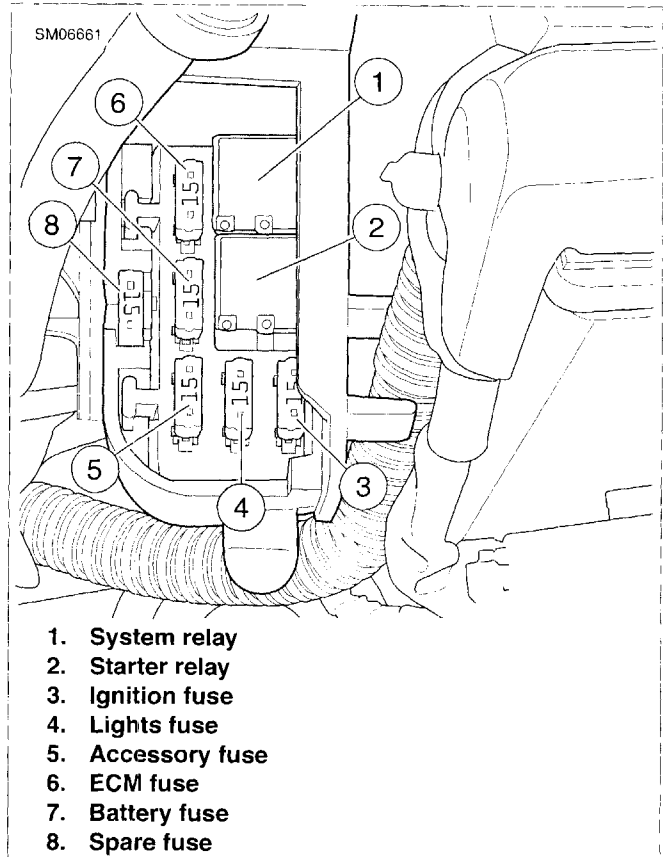

Figure 6-11. Relay/Fuse Block (Typical)
See Figure 6-11. The electrical system relay/fuse block is located in front of the battery under the left side cover. The relays and fuses are mounted in the relay/fuse block. All fuses are rated at 15 amperes.
2. See Figure 6-11. Pull suspect fuse (3-7) from slots in relay/fuse block and inspect for blown condition or other damage.
2. See Figure 6-11. To unplug old relay (1 or 2), grasp body of relay and with a gentle rocking motion, pull straight out from relay/fuse block.